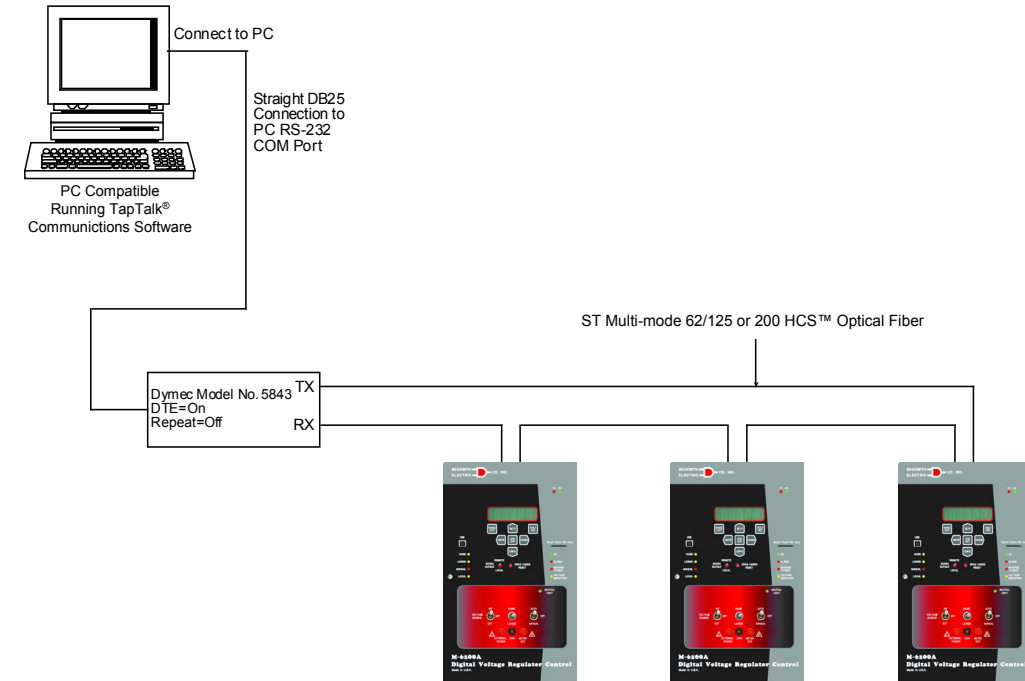

Figure 2 Fiber Optic Connection Loop
**Communications Using Networking:** The addressing capability of the M-6200A allows networking of multiple Beckwith Electric Digital Regulator Controls. Each regulator control can be assigned a device address, Feeder Address or Substation Address ranging from 1 to 65519. Selected commands may be broadcast to all controls on the network. Figures 2, 3 and 4 illustrate typical network configurations. Addresses 1 to 247 can be assigned to MODBUS and 1 to 65519 for DNP3.0.